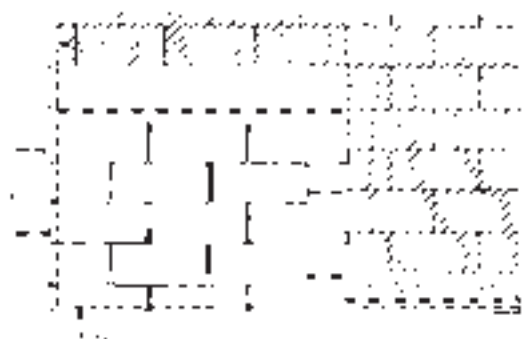

Figure 10-17: Vertical Racking, Nested.
2. Cut 6" off one side of the first starter shingle and install the 30" piece over the first course of the old shingles, at the lower left corner. This, and all other shingles, must nest with the butt edges of the old shingles (*Figure 10-17*).
2. Align the top edge of the 10" strips so they butt up (nest) against the tabs of the shingles in the old third course (*Figure 10-17*).
1. Cut 6" off the left end of a full shingle. Nest the top edge of this new 12" by 30" piece of shingle up against the bottom edge of the shingles in the old fourth course (*Figure 10-17*).
1. Begin the application of succeeding courses by alternating the use of full shingles and 30" shingles (6" off the left end) up the rake in a single column (*Figure 10-17*).